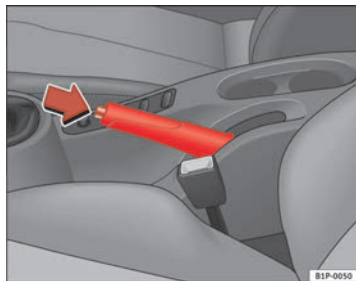

Fig. 129 Handbrake between the front seats
- Pull the handbrake lever up firmly ⇒ **fig. 129**.
- Pull the lever up slightly and press the release knob in the direction of the arrow ⇒ **fig. 129** and guide the handbrake lever down fully ⇒ .